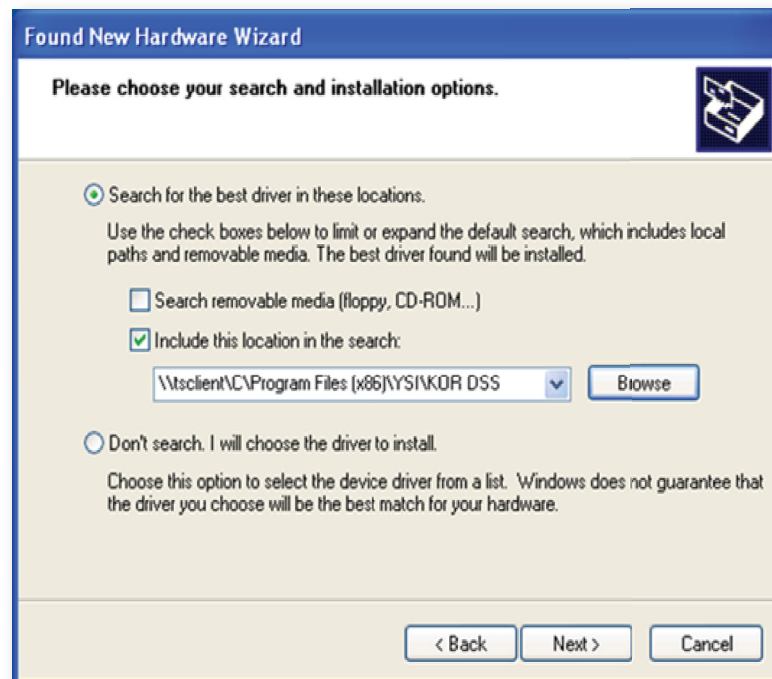

Figure 81 Found New Hardware Wizard file location
4. Select **Search for the best driver in these locations**, then **Include this location in the search:**. Click **Browse**, then navigate to the file location: **C:\Program Files (x86)\YSI\KorDSS** for 64 bit systems or **C:\Program Files\YSI\KorDSS** for 32 bit systems (Figure 81). Click **Next**.